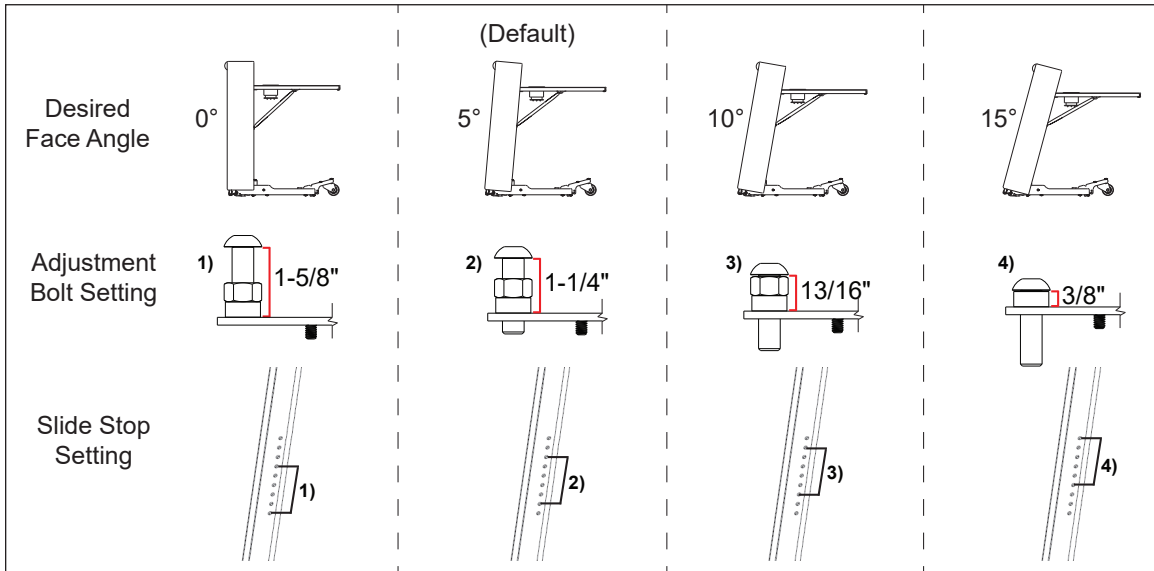

Figure 40: Face Angle Adjustment
Face angle is adjustable from a minimum of 0° to angled back 15°. Use a measuring device to set the adjustment bolt at the correct height to correspond with the typical face angles as shown below and in **Figure 40**:
2. Move the slide stop up as the face angle increases or down as the face angle decreases as shown below and in **Figure 40**: